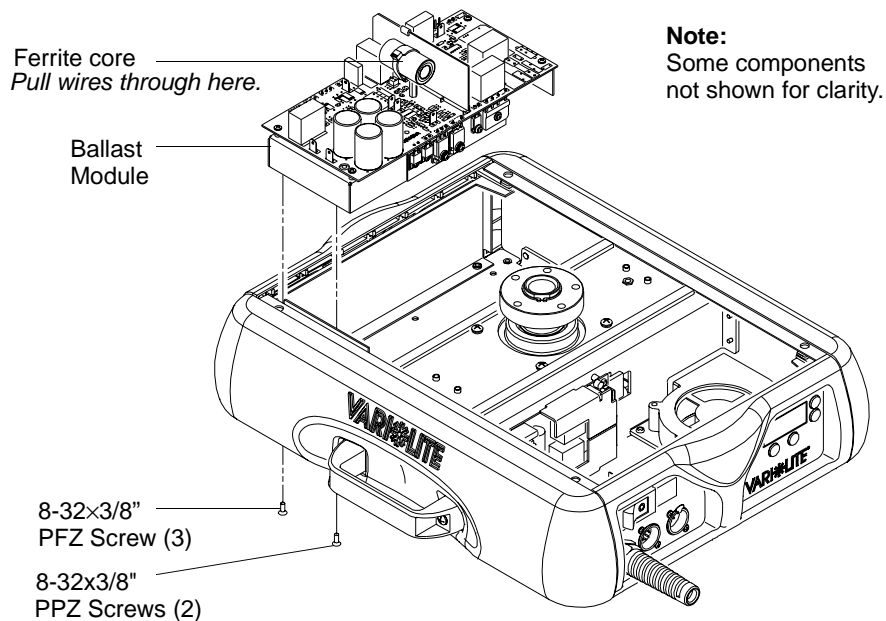

Figure 2-26: Ballast Module Assembly Replacement
Step 7. Pull wires through ferrite core. **Figure 2-26.**